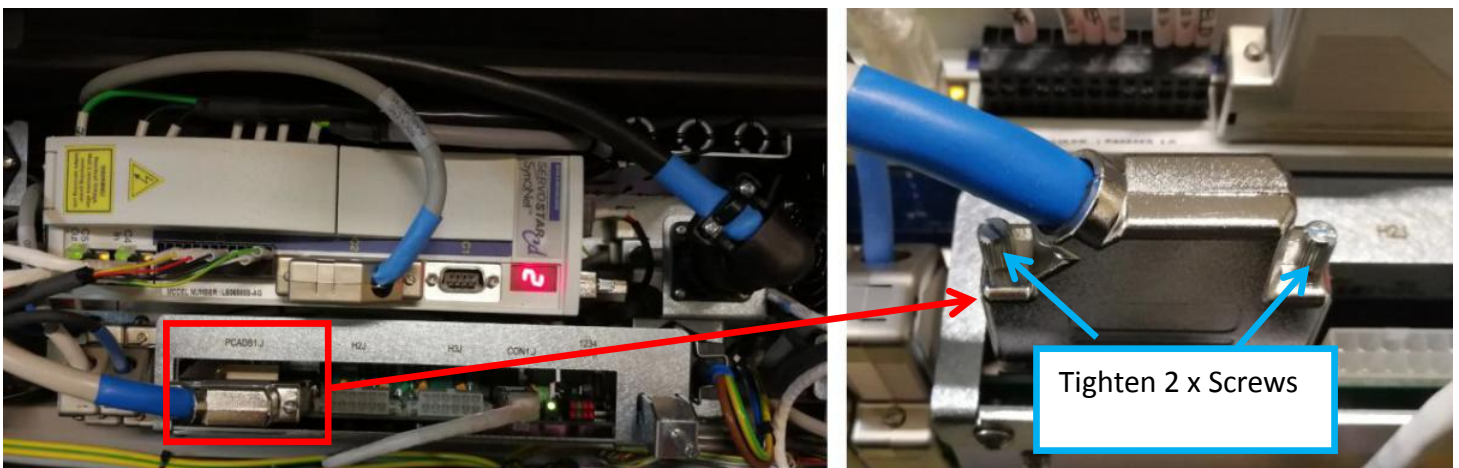

Figure 24
29. Connect Stepper Motor Driver connector at PCAADB1J as Figure 24